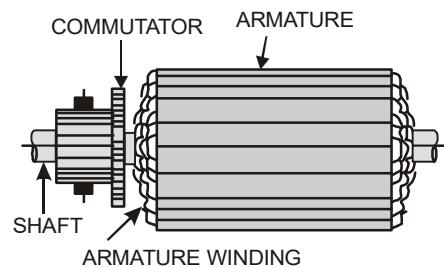

Fig. 4.42: Rotor of a universal motor
2. Rotor. It is the rotating part of the motor. It consists of *shaft*, *armature*, *armature winding* and *commutator*, as shown in fig.4.42.